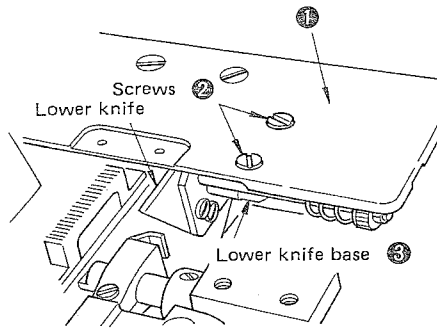

Fig. IV-8-2
Loosen two screws ② (left-hand side and right-hand side) on the table surface ④ , and move lower knife base ③ in a lateral direction so that the desired cutting width of the lower knife is obtained. Then tighten the screws ② to fix the lower knife base in place. (See Fig. IV-8-2)